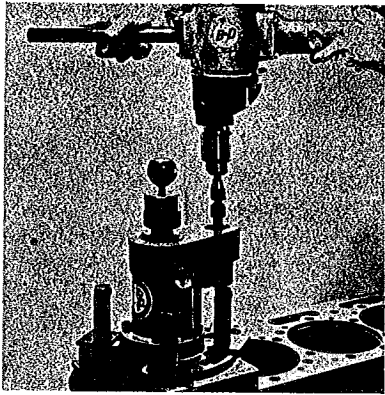

Fig. 9 Starting the Bore Cut
10. With the hand drill on the universal drive adapter (30) commence boring until the machine freewheels (approx. 2 minutes). About half-way down during the cut the cutter begins cutting out the old counterbore ledge. The operator should have a firm grip on the hand drill to be prepared for the increased load on the hand drill from the added metal being cut. Stop immediately when the cutter freewheels or some chatter may occur. (See Fig. 9).